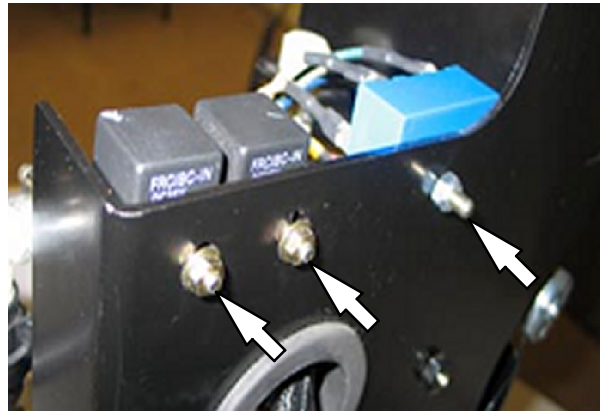

FIG. 5
7. Remove the hardware holding the relays and the timer module onto the FaST bracket. Set hardware aside since these items are needed to install the relays and the timer module onto the new FaST bracket (1). Refer to Fig. 5.